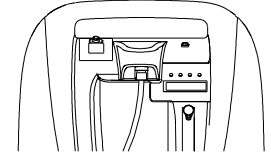

Figure3
Tubing Connection: (Figure 3)
2. Directly attach the Nasal Cannula to the connector. Figure 3